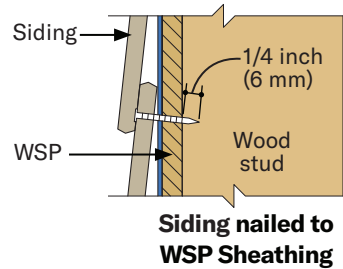

Figure 7d
- Nail length must be long enough to fully penetrate sheathing by at least 1/4 inch (6 mm). (Figures 7d, 7e)